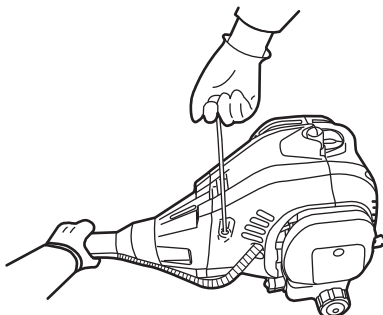

Fig. 16e
- e). Hold the product stable and pull the recoil starter handle (A7) firmly; repeat until the engine starts. (See Fig. 16e)